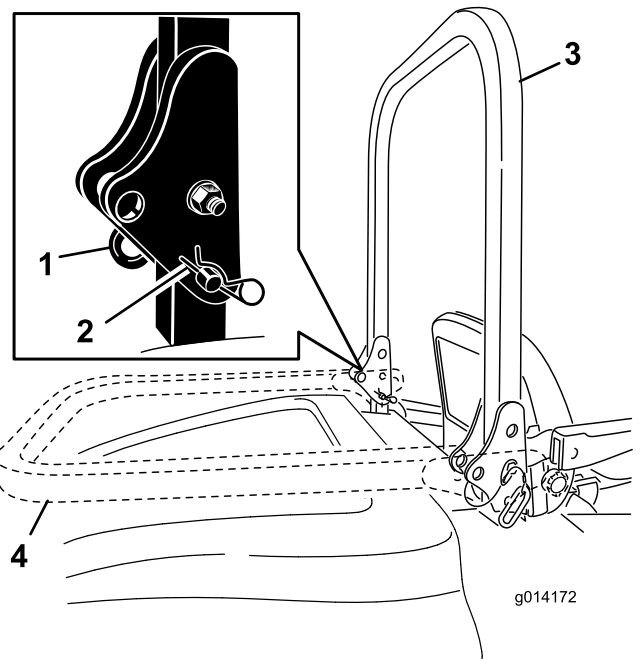

Figure 11
1. To lower the roll bar, remove the hairpin cotters, push the roll bar forward against the springs, and remove the two pins (Figure 11).
2. Lower the roll bar to the down position (Figure 11).
3. Install the two pins and secure them with the hairpin cotter pins (Figure 11).
4. To raise the roll bar, remove the hairpin cotter pins and remove the two pins (Figure 11).
5. Raise the roll bar to the upright position and install the two pins and secure them with the hairpin cotter pins (Figure 11).